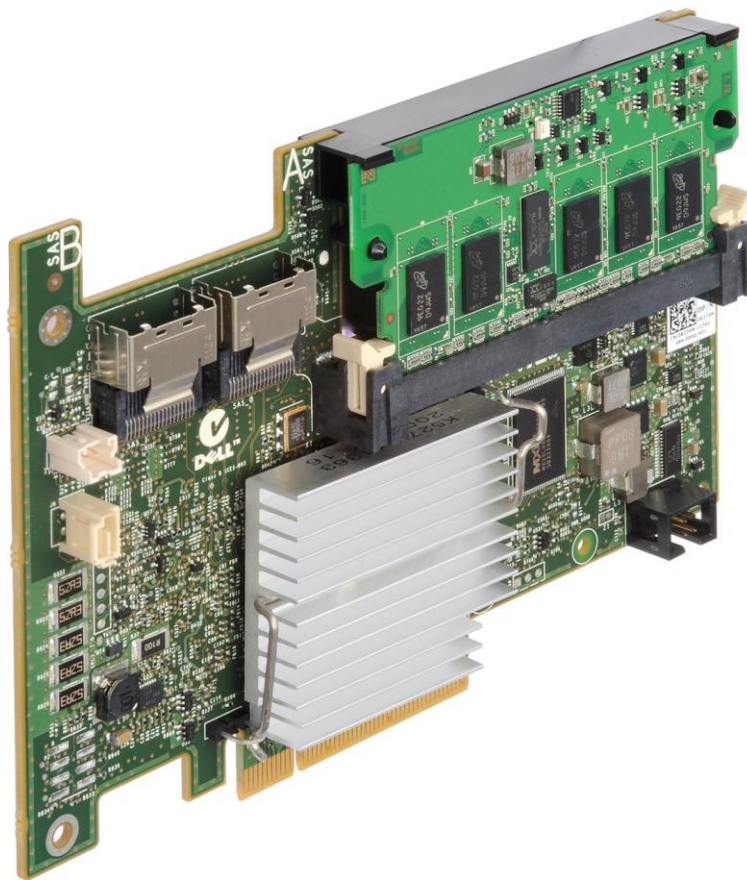

Figure 1. PERC H700 Integrated (Additional Sled for PCIe Slot)
- The PERC H700 Integrated card with two x4 internal mini-SAS ports supports the PCIe 2.0 x8 host interface. Cache options include standard 512 MB with battery backup unit (BBU), 512 MB non-volatile (NV) cache, or 1 GB non-volatile cache. The PERC H700 Integrated card is installed in the dedicated internal storage slot of the server. See Figure 1 for a view of the PERC H700 Integrated card.
- The PERC H700 Adapter with two x4 internal mini-SAS ports supports the PCIe 2.0 x8 host interface. Cache options include standard 512 MB with BBU, 512 MB non-volatile cache, or 1 GB non-volatile cache. The PERC H700 Adapter is installed in a PCIe slot in the server. See Figure 1 for a view of the PERC H700 Integrated card (adapter version is the same with the addition of a sled for adhering to the PCIe slot connection).